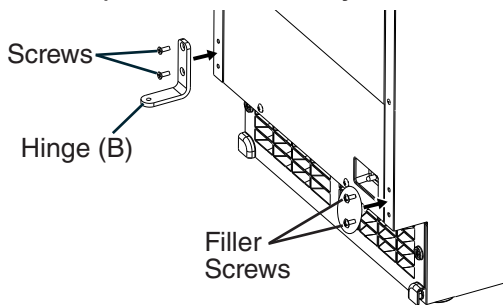

**Fig. 11**
- Contact your local distributor to purchase Hoshizaki Kit HS-0229. The kit contains "hinge (A)-left."
- Remove the 2 screws securing the top panel, then lift it off. See Fig. 11.